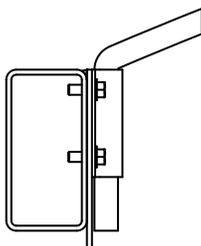

Figure 11-2
- Figure 11-2.** Position bracket and bow as shown to reduce tarp wear.